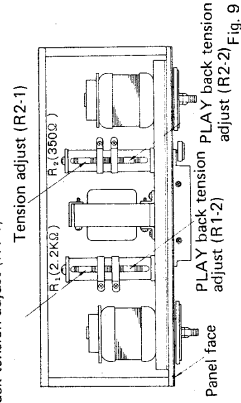

Fig. 9
3. So that this value becomes 93 – 110g (280 – 330 g.cm), adjust slider of R1 2.2k ohms (R1-2). Refer to Fig. 9.
3. So that this value becomes 190 – 210 g (570 – 630 g.cm) adjust slider of R2 350 ohms (R2-2) (Fig. 9).
2. So that this value becomes 35 – 45 g (105 – 135 g.cm) adjust slider of R1 2.2 k ohms (R1-1) (Fig. 9).